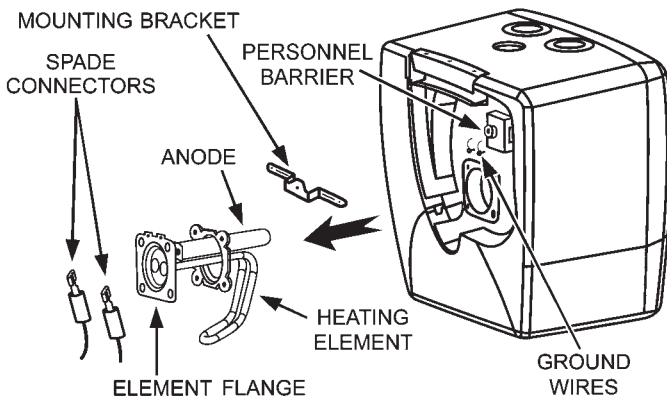

FIGURE 10.
- Remove the two screws from the mounting bracket, see Figure 10, being careful not to drop the screws into the unit, as they will be difficult to retrieve. Remove bracket and set screws aside.
17. Replace the mounting bracket with the center rise facing outward and the screw hole up, see Figure 10.